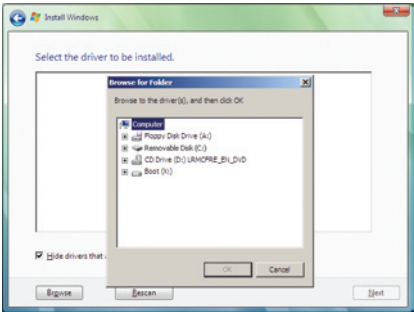

Figure 6
Insert the motherboard driver disk (Method A) or the floppy disk/USB flash drive that contains the driver (Method B), then specify the location of the driver (Figure 6). Note: For users using a SATA optical drive, be sure to copy the driver files from the motherboard driver disk to a USB flash drive before installing Windows Vista (go to the **BootDrv** folder and save the whole **iRST** folder to the USB flash drive). Then use Method B to load the driver.
When a screen as shown in Figure 6 appears, select **Intel(R) ICH8R/ICH9R/ICH10R/DO/5 Series/3400 Series SATA RAID Controller** and click **Next**.